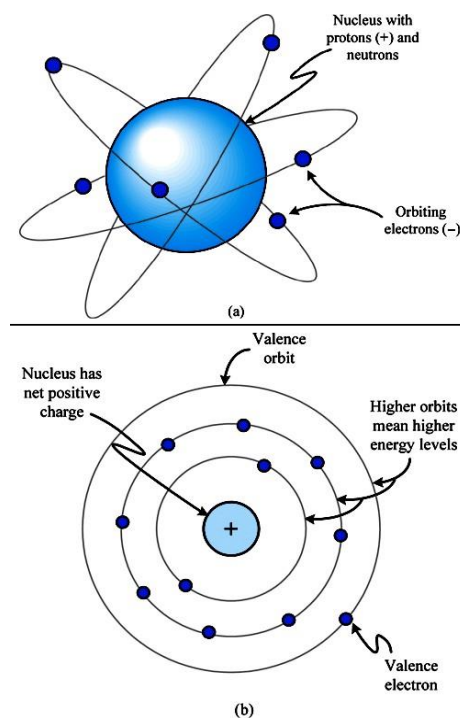

Figure 1.4 Atomlayer
- The outermost orbit is the valence orbit as shown in Figure 1.4. Valence band electrons are the furthest from the nucleus and have higher energy levels than electrons in lower orbits.